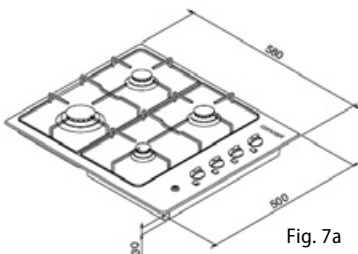
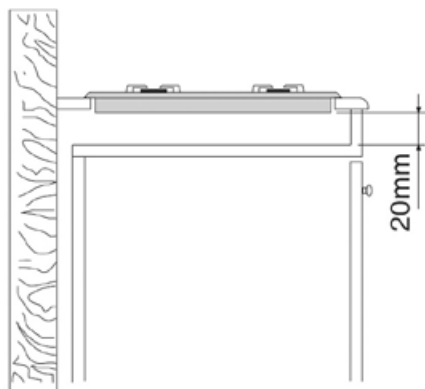

Fig. 7a
Fig. 8a
4. The required dimensions of the unit and built-in hole in the worktop are on Fig. 7a, 7b. Allow side gaps of min. 100 mm from the adjacent objects and cabinets, from non-flammable materials and walls leave min. 30 mm (Fig. 8a, 8b). Allow a rear side gap of minimum of 30 mm.